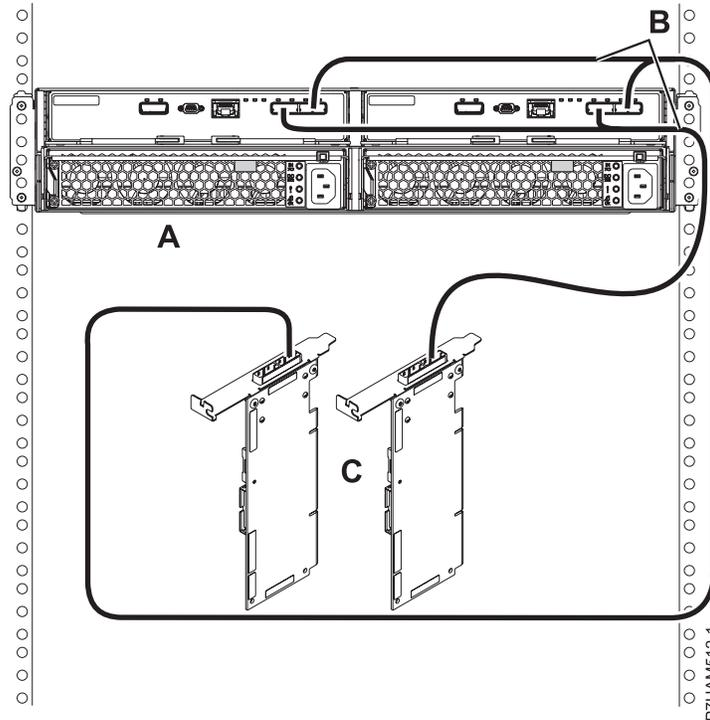

Figure 37. Mode 1 connection of one 58/87 disk drive enclosure by using YO cables to a SAS adapter pair
11. Perform the mode 1 connection of one 58/87 disk drive enclosure (A) by using YO cables (B) to a SAS adapter pair (C) as shown in Figure 37 on page 71.